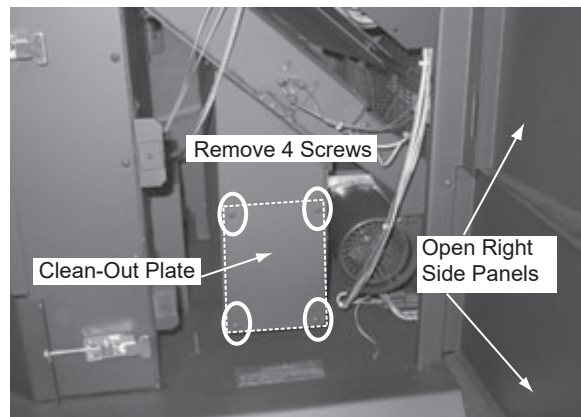

Figure 22.2
- a. Open both the upper and lower right side panels (**Figure 22.2**).
- b. Using a Phillips head screwdriver remove the 4 screws from the clean-out plate and set aside (**Figure 22.2**).